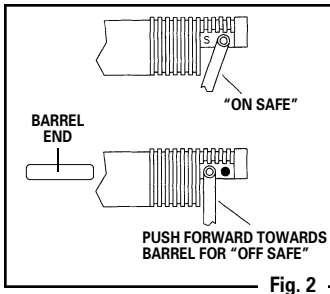
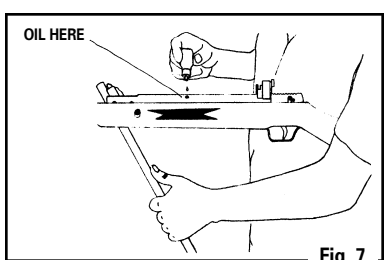
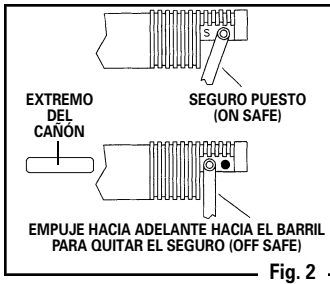

Fig. 2
Fig. 7
Fig. 2
- Locate the safety on top of the receiver (Fig. 2).
- NOTE:** Cocking the air rifle automatically pushes the safety to the "On Safe" position (See Fig. 2). Once, the air rifle is cocked, you will notice that a red dot appears in the "oiling hole" (See Fig. 7); this red dot indicates that the air rifle has been cocked.
- Your air rifle will work best if you oil it every 200 shots, where indicated (Fig. 7), with two drops of a silicone-based chamber oil made specifically for spring airgun use. DO NOT use any other type of oil and DO NOT over-oil as this can cause damage to your air rifle. To protect the outside finish of your air rifle, apply a few of drops of oil and polish the entire surface with a flannel cloth.
- Encuentre el seguro sobre la caja de los mecanismos (Fig. 2).
- NOTA: El montaje automático del rifle empuja el seguro a la posición de seguro puesto (On Safe) (ver la Fig. 2). Una vez que se haya montado el rifle, notará que aparece un punto rojo en el "orificio de aceitado" (ver la Fig. 7).